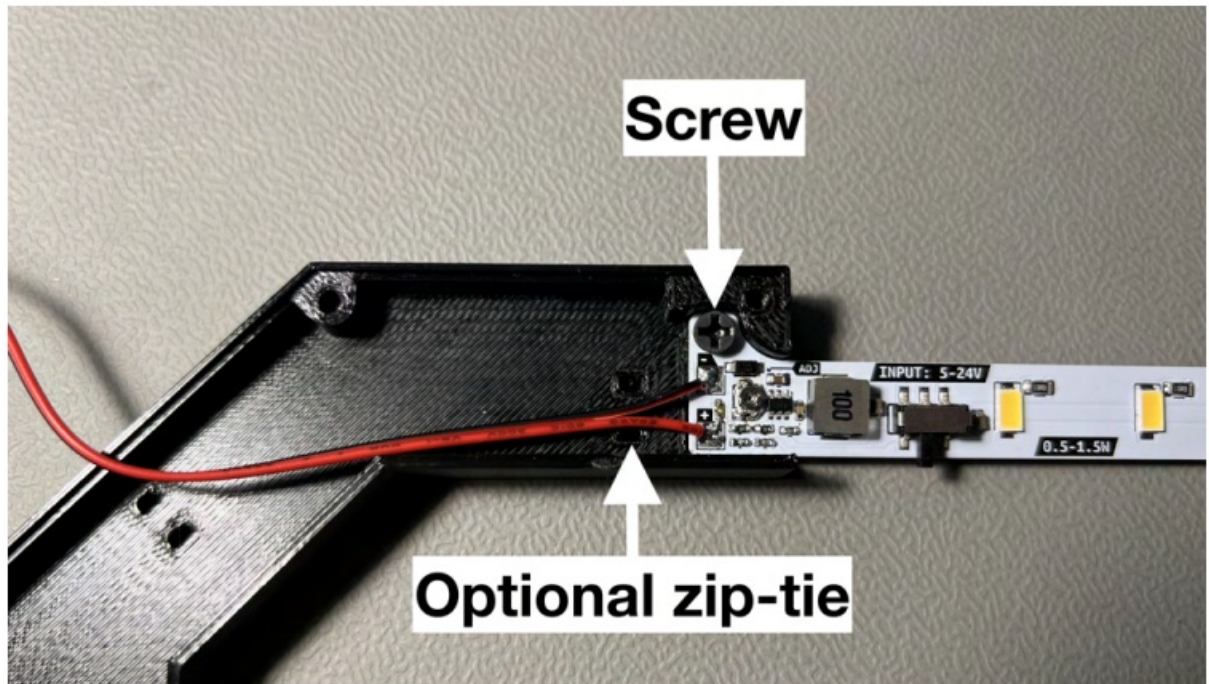

Figure 1: LED light mounting in the left arm.
- To begin the installation take the left arm mount and the LED light and use one of the self-tapping screws to mount it on the arm, as shown in Figure 1.